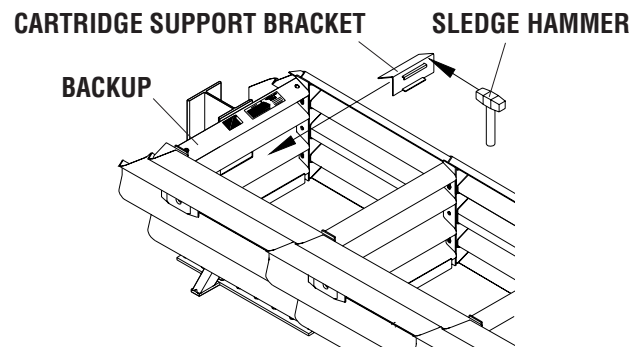

Figure 82
- C. Then, using a sledge hammer and Quad-Beam™ shape on backup as an anvil, form Cartridge Support Bracket back into 90° shape (see Figure 82).